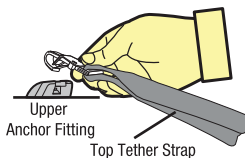

Figure 1
- Step 2:** Attach the Top Tether Strap to the vehicles Upper Anchor Fitting (refer Figure 1).